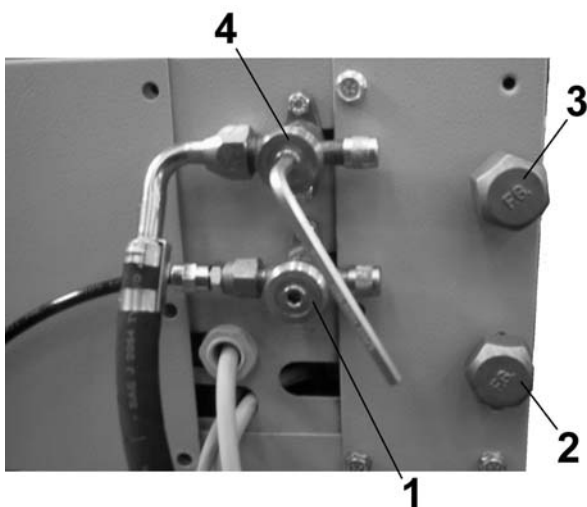

Fig.30
**6.2.7** Fully open the service high pressure valve **Fig. 30 Ref. 1**
**6.2.8** Screw out the guard of the service low pressure valve **Fig. 30 Ref. 3** and open the valve **Fig. 30 Ref. 4** in full.
**6.2.9** Screw down the guards of the valves **Fig. 30 Ref. 2** and **3** again.